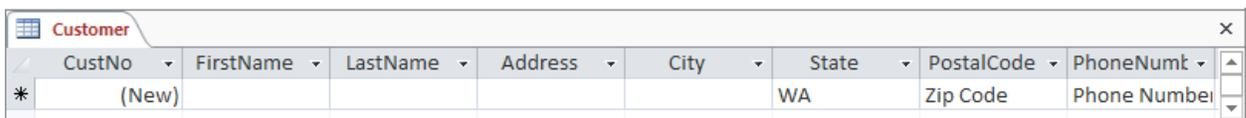

Figure 12: Datasheet View for the Empty *Customer* Table
- The Datasheet view appears with the fields named (see Figure 12).